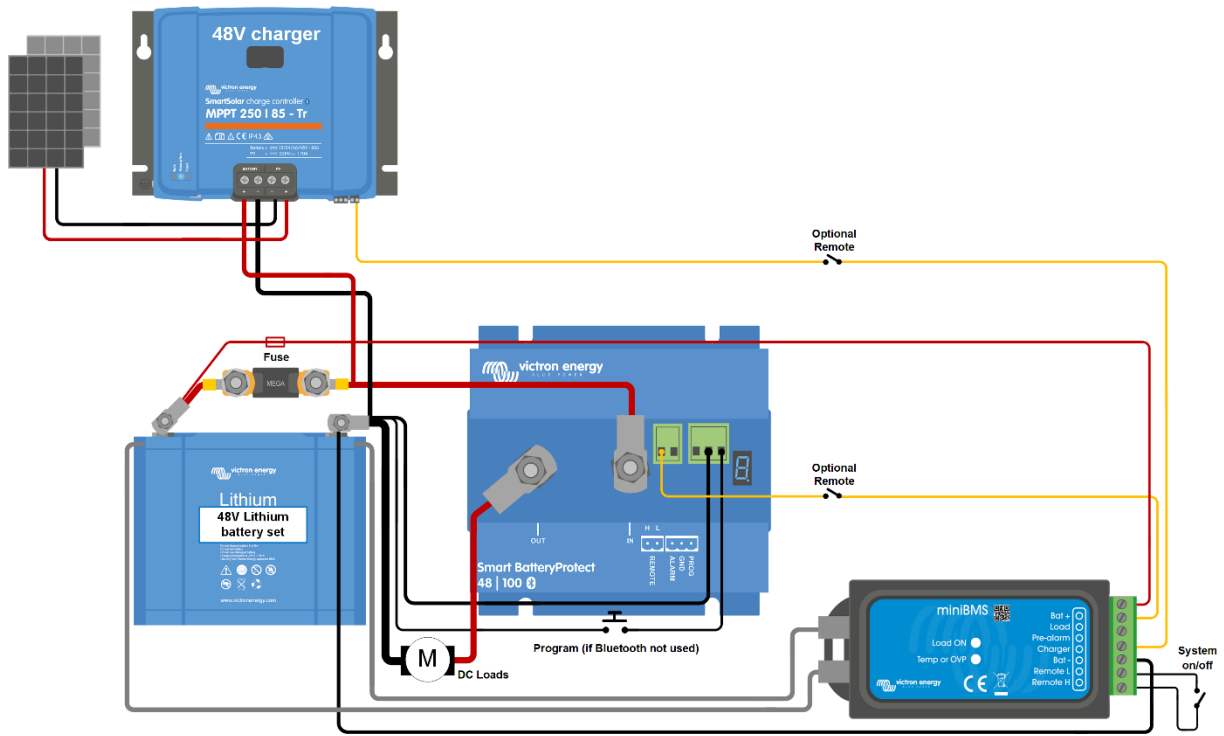

Figure 4: DC solar system with Lithium battery (applicable with VE.Bus BMS or miniBMS)
- When in Li-ion mode the SBP will observe a dead period of 30 seconds after the remote input of the SBP has become free floating. See the note under figure 4 for a detailed description.